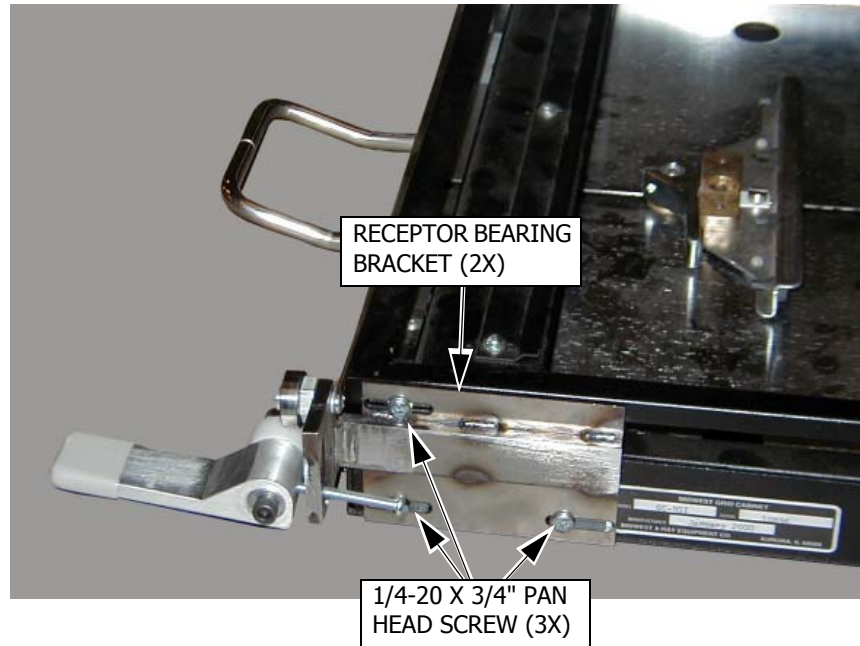

Figure 3-2. Front Receptor Bearings Resting on Rail
- a. Loosely attach the two Front Receptor Bearing Brackets to the Receptor Cabinet as shown in Figure 3-2 below, using the three 1/4-20 x 3/4" pan head screws supplied.